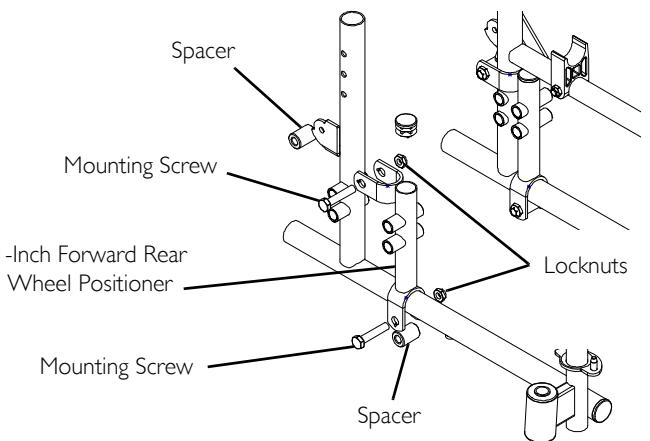

FIGURE 2 Installing the 1-inch Forward Rear Wheel Positioner
2. Position the right hand 1-inch forward rear wheel positioner onto the right hand side of the wheelchair frame (FIGURE 2).